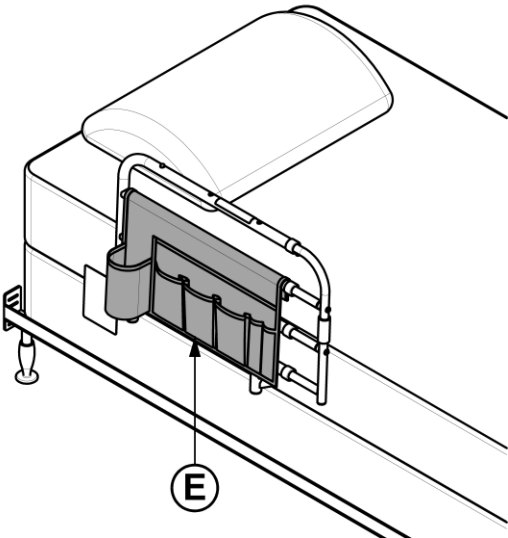

FIGURE 7
7. Place pouch **E** on rail as shown in *FIGURE 7*.